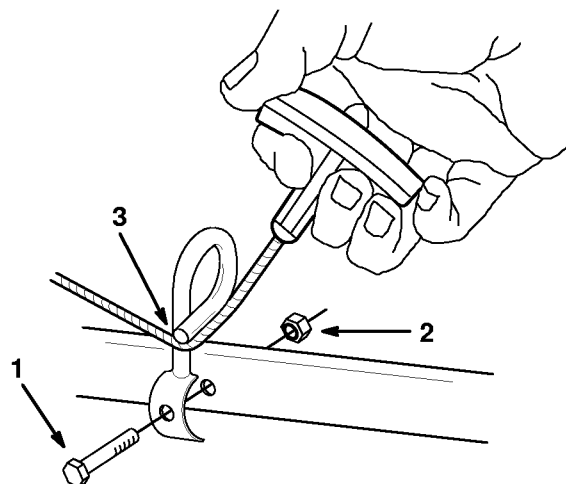

Figure 2
2. Secure starter rope guide to lower handle with bolt and locknut. Pull starter rope through guide (Fig. 2).